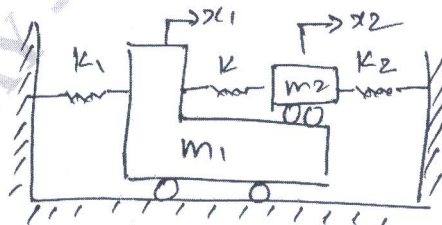

Fig.Q7(b)
- b. Determine the frequency of the system Fig. Q7 (b), $K_1 = K_2 = 40$ N/m, $K = 60$ N/m, $m_1 = m_2 = 10$ kg.